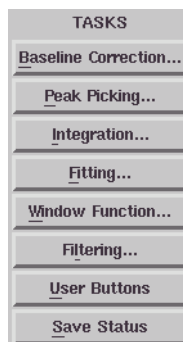

Figure 6-47 The Tasks menu.
2. **Start the Fitting routine.** Click Fitting in the TASKS menu. (See Figure 6-47.) The TASKS menu will change to a menu with a list of the fitting functions.